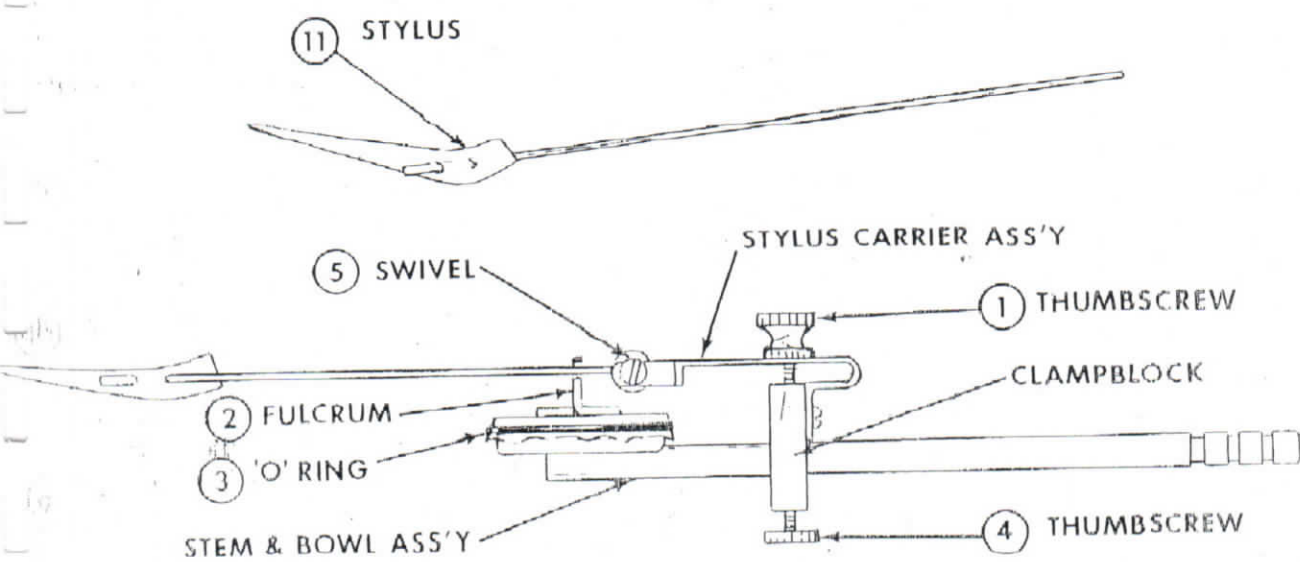

FIG. 2 7066-901 STUDENT TAMBOUR (SHOWN WITH SMOKE WRITING STYLUS)
The stylus or pen when at rest should be parallel to the stem of the tambour (see Fig. 2). If not, adjust thumbscrew (1) on the stylus carrier assembly by turning the thumbscrew until it is parallel. The stylus or pen should then be centered at a point of rest on the fulcrum thus allowing an equal amount of movement in a vertical plane.